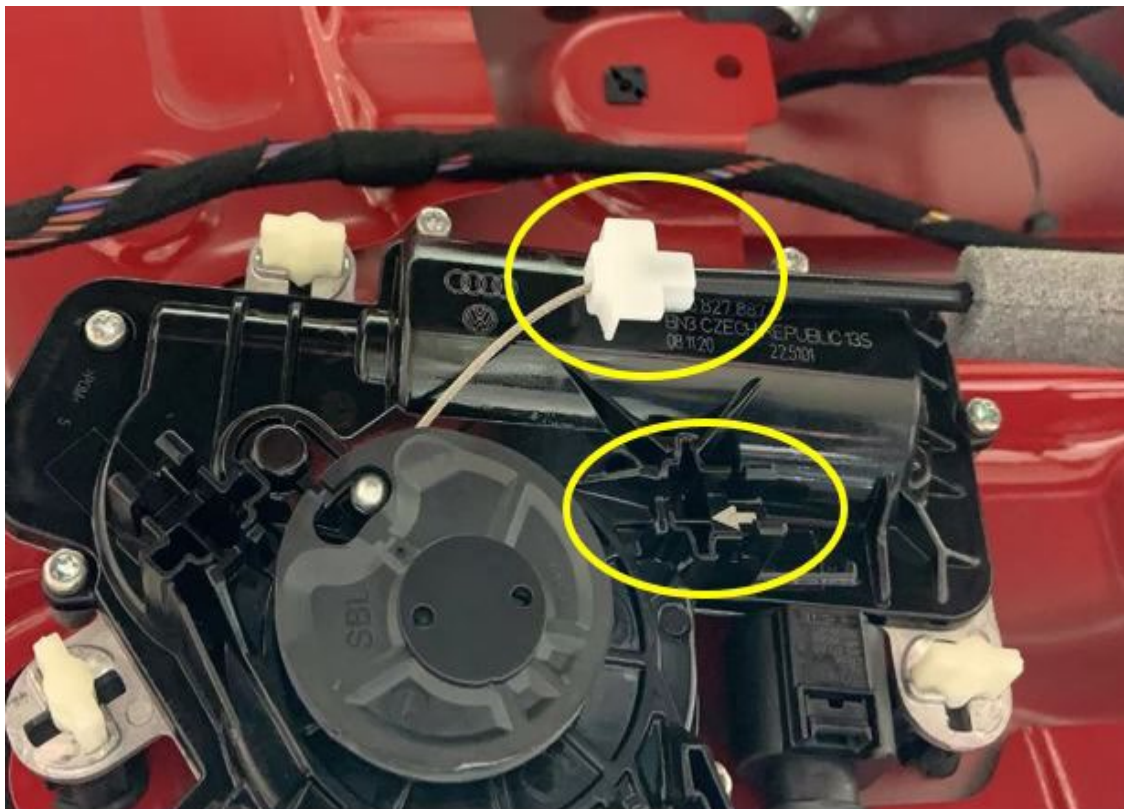

Figure 3. Detached Bowden cable clip.
3. The Bowden cable clip has detached from the closing assist motor housing. This failure mode could also cause DTC B113E07 to store (Figure 3).